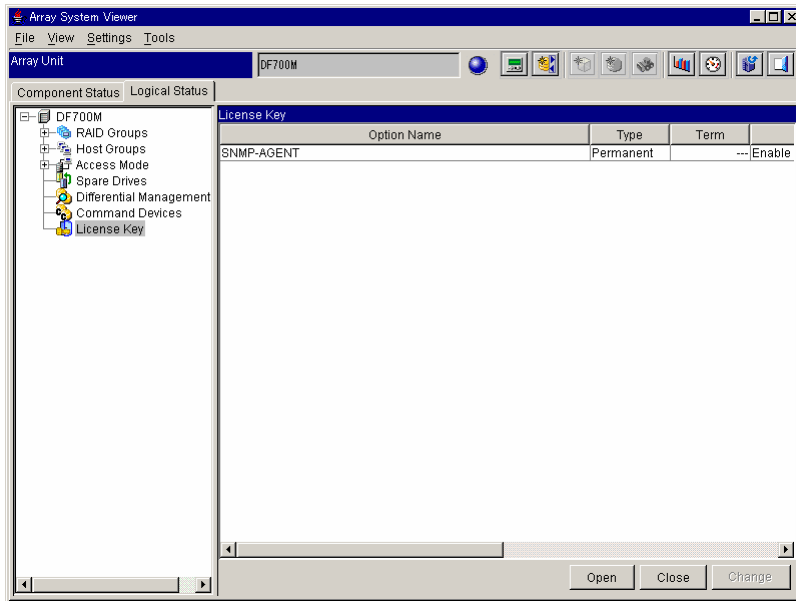

Figure 4.7 Array System Viewer Window (Logical Status Tab: Option Enable)
If you choose not to restart the subsystem, the **Array System Viewer** window appears displaying the installed optional feature SNMP (Figure 4.7).
4. Click the **License Key** icon (Figure 4.7).